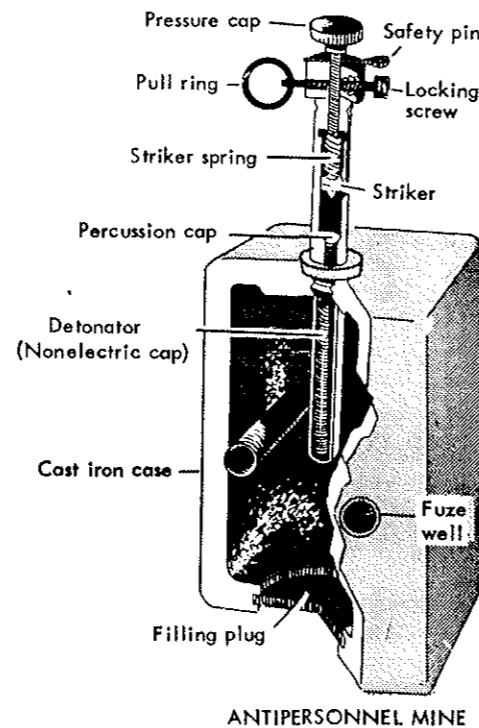

Figure 33.
2. Antipersonnel mines (figs. 33 and 34) are used primarily to produce casualties among foot troops. The